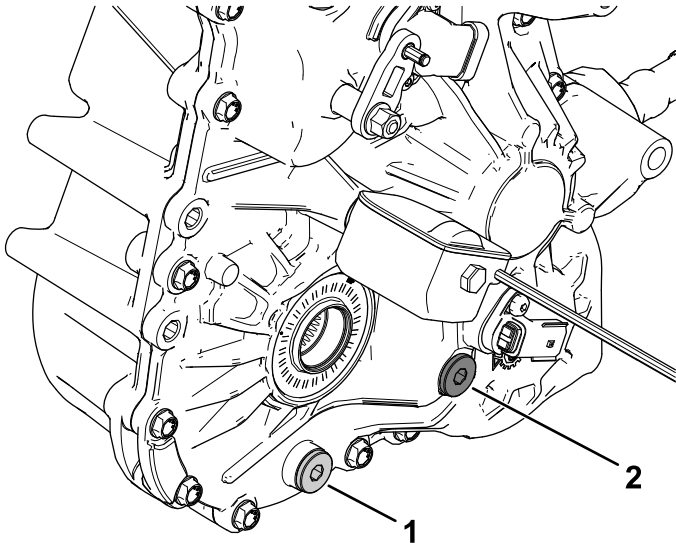

Figure 86
4. Remove the fill plug on the transaxle (Figure 86).
5. If the fluid level is low, remove the fill plug and add the specified fluid until it runs out of the hole (Figure 86).
1. Align a drain pan under the drain plug (Figure 86).
2. Remove the fill plug (Figure 86).
3. Remove the drain plug, and allow the fluid to drain completely (Figure 86).